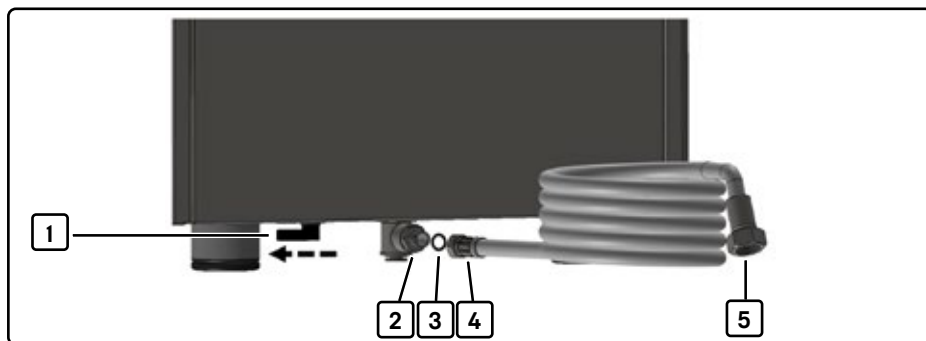

Fig. 4 Rear view with rotary valve and water connection nozzle
2. Screw the water connection hose [4, Fig. 4] included in the scope of delivery to the water connection nozzle [2, Fig. 4] on the underside of the machine. Use the gasket [3, Fig. 4] for this.
4. Connect the water connection hose [5, Fig. 4] to the water supply.
5. Move the rotary valve [1, Fig. 4] into the mains water position. The valve points towards the outside of the machine.